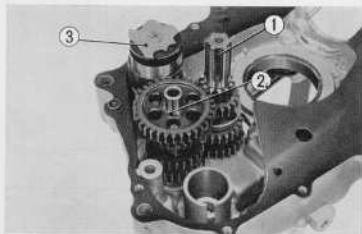

Fig. 3.97 Removing the gears
7. Remove the main shaft ①, counter shaft ② and the gear shift drum ③ from the left crankcase as individual assemblies. (Fig. 3.97)